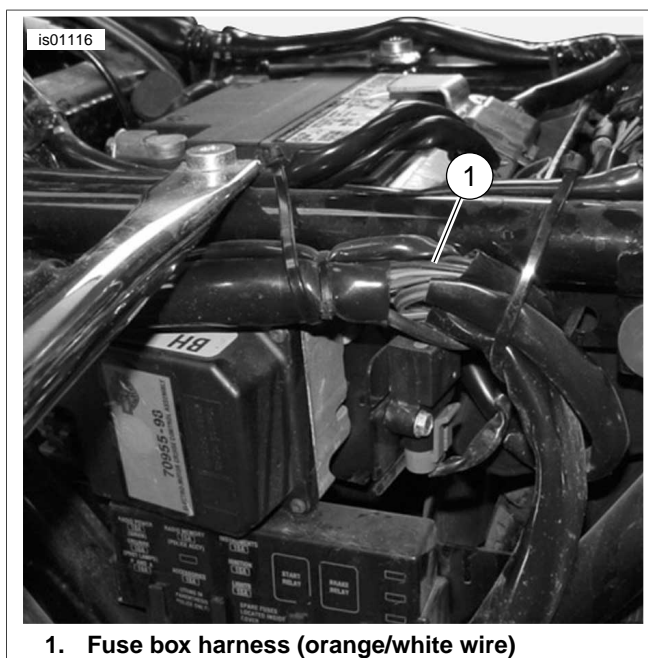

Figure 8. Fuse Box Harness Behind Left-Hand Side Cover, 2003 or Earlier Touring Models (FLHTCUI Shown)
- See Figure 8. Carefully slice open an area of the main harness wrap inside the electrical side cover at an accessible point, and cut an orange/white main harness power lead.